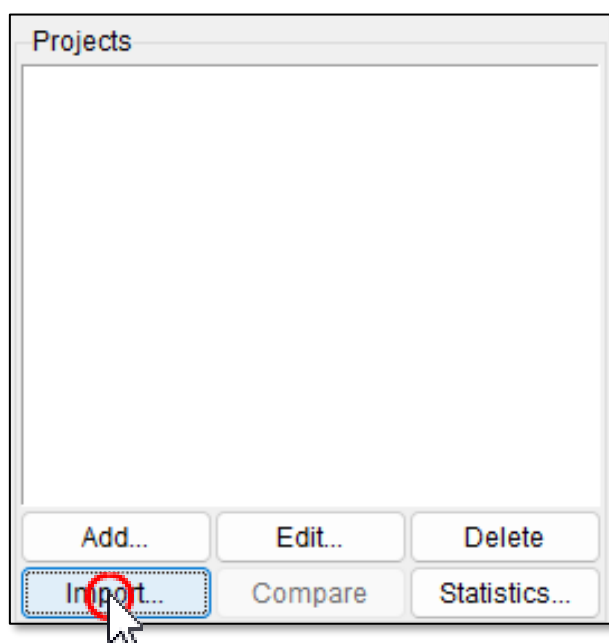

Figure 39
2. Click the “**Import...**” button in the side panel’s projects module (Figure 39).